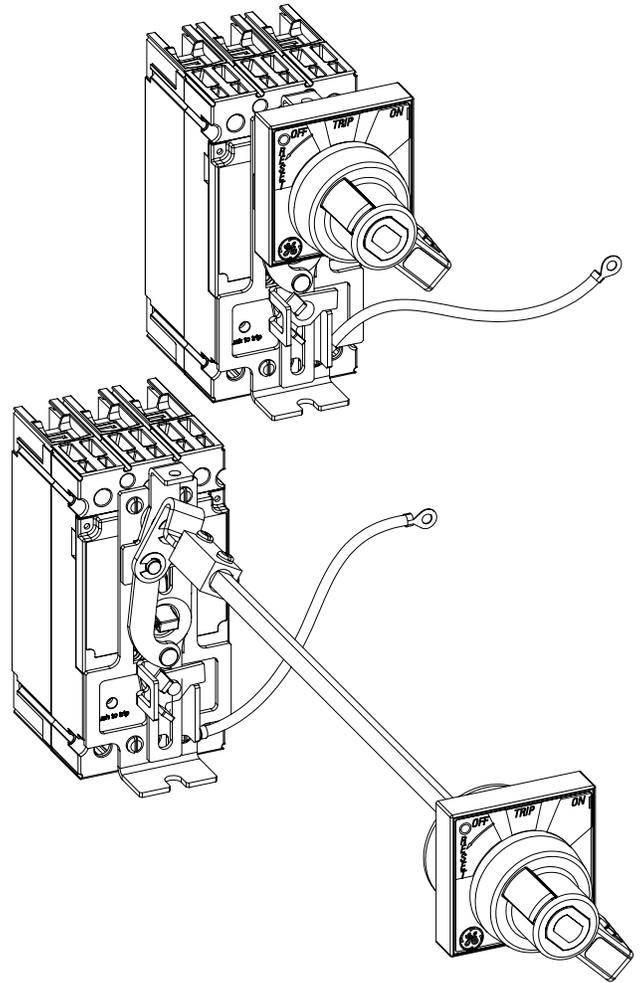

Figure 1. FNRH Rotary Handle Kits mounted on FC100 circuit breaker.
These instructions describe the installation procedures for the rotary handle FNRH operating mechanism accessory on **Record Plus™** circuit breakers, as illustrated in Figure 1.
4. Close the enclosure door and verify that the end of the crank assembly or the extension shaft, as appropriate, locks into the center of the handle assembly, as illustrated in Figure 1.